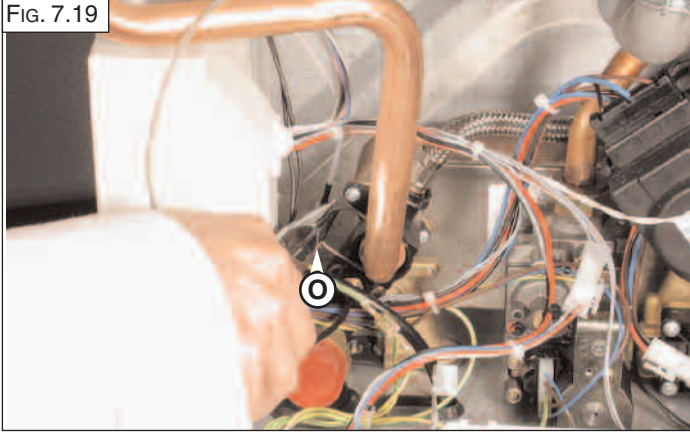

FIG. 7.23
8. Pull forward the heat exchanger (FIG. 7.23 - 7.24).